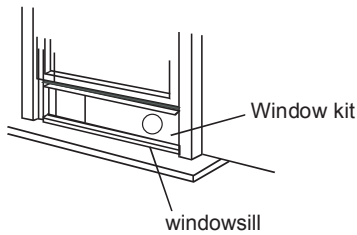

Fig. 10
3. Cut the foam seal (adhesive type) to the proper length and attach it on the top of the window kit. See Fig. 10.